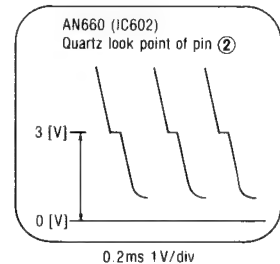

Fig. 26
4. Make sure that the measured waveform is as shown in fig. 26.